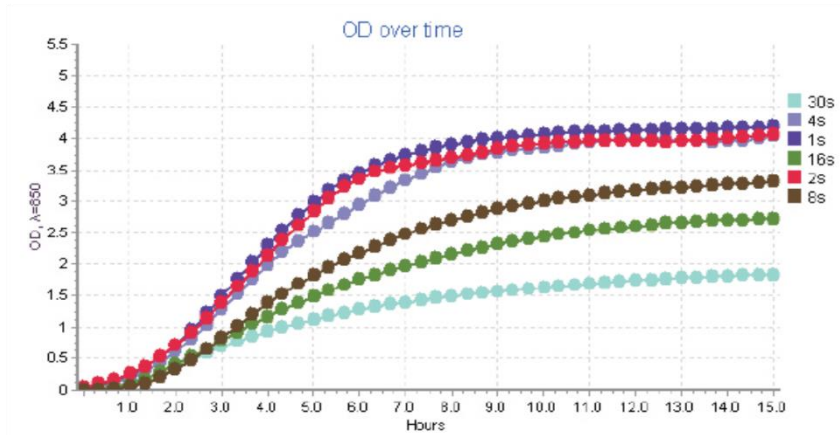
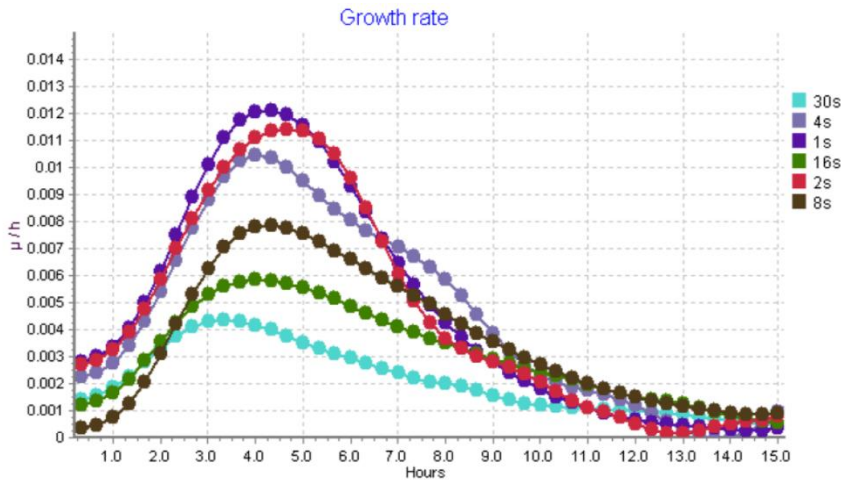

Fig 5. Influence of Frequency of Reverse Spinning on the Growth kinetics ($\Delta OD_{\lambda=850nm}/\Delta t$) vs Time of fermentation (hrs).
Fig 6. Influence of Frequency of Reverse Spinning on the Growth kinetics ($\Delta OD_{\lambda=850nm}/\Delta t$) vs Time of fermentation (h).
It is known that aeration affects the growth and growth rate of aerobic microorganisms. The reverse spin frequency affects the rate of oxygen uptake in the bioreactor. Results obtained indicate that the maximum rate of cell division is detected at a frequency of 1 Reverse Spin per second (1 s⁻¹) at a speed of 2000 rpm. The increase of pause between reverse spins reduces cell growth rate, reaching 50% of the maximum value, when RS frequency is 30 s⁻¹ (see Fig 5. and Fig. 6.).
7.2.1. Legend of experiment (Fig. 5.): Personal Bioreactor RTS-1 / RTS-1C was used with 850 nm LED, volume of LB media in 50 ml Falcon tube was 15 ml, Reverse Spin Frequency 1, 2, 4, 8, 16, 30 s^{-1} , measurement frequency (MF) is 10 min^{-1} , reactor rotation speed 2000 rpm, temperature 37° C, diameter of filter pores (for aeration) 0.25 μm .